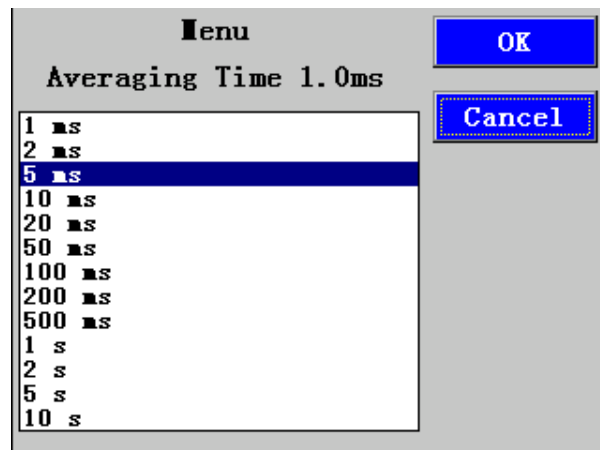

Figure 7 Averaging Time Menu
- 2 Move to the <Averaging Time> parameter and press [Edit]. You see the screen in Figure 7.